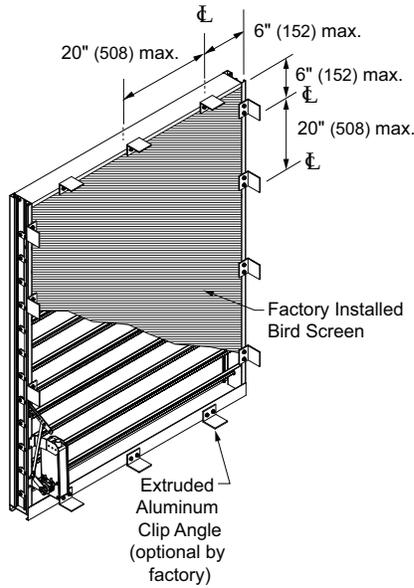

Fig. 2.1 Clip Angle - Single Section Louver
1. Locate all anchor clip angles [Minimum 1-1/2" x 2" x 1/8" thick x 2" long (38 x 51 x 3 x 51)] as required to establish proper louver depth and position. See fig. 2.1 for required spacing. (Clip angles are by others or optional by C&S).